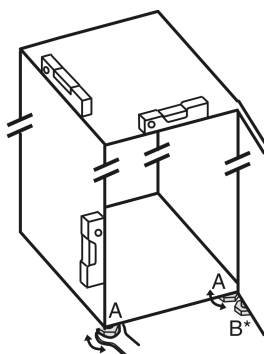

Fig. 25
- ▶ Unscrew the adjustable feet Fig. 25 (A) using the enclosed open-end spanner and a spirit level until the appliance is firmly aligned and level.
- ▶ Unscrew the adjustable foot Fig. 25 (B) on the swap bearing block with the enclosed open-end spanner until it rests on the floor.
- ▶ Turn the adjustable foot Fig. 25 (B) 90° further.